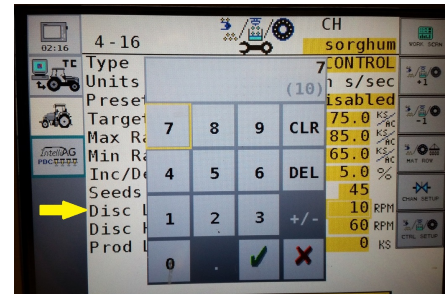

Figure 17
Step 12. Select **Disc Low Limit** and enter. (Figure 17) This is an alarm setting when meter shaft drops below setting. We recommend setting at 7 RPM. This is the minimum setting the meter will turn due to mechanical reasons.